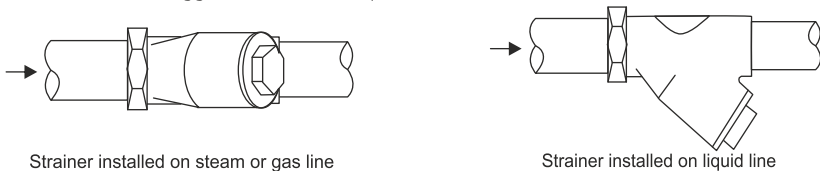

Figure 3 : Strainer installation on horizontal pipework
5. Installation Guidelines : [Refer Figure 3 and 4]